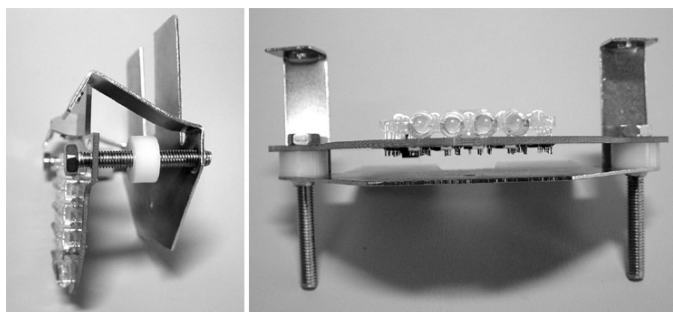

Figure 5
5. Using both the 10-32 x 1 1/2" Hex Screws and 1/4" Nylon Spacers, pass them through the LED Board in the order shown in Figure 5 (left). Using a 5/16" {8 mm} wrench, start the threads of the screws into the reflector plate. Once both screws have been started, tighten them firmly against the LED Board and then bend the mounting tabs as close as possible to their original positions as in Figure 5 (left).